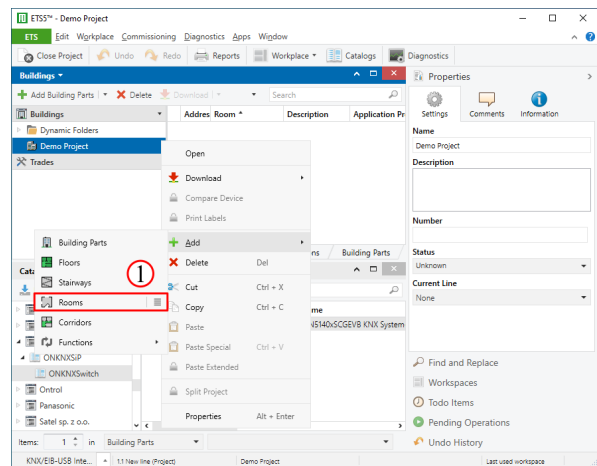

Figure 20. Add a Room to the Building in Which your Device is Installed
It is not possible to add devices to the building itself. So in order to be able to add our evaluation board, add a room to the building. Do this by right clicking on the building in the *Buildings* view and selecting *Add → Rooms* ① as shown in figure 20. You will now be prompted to enter a room name. Enter an appropriate name and click *Ok*.